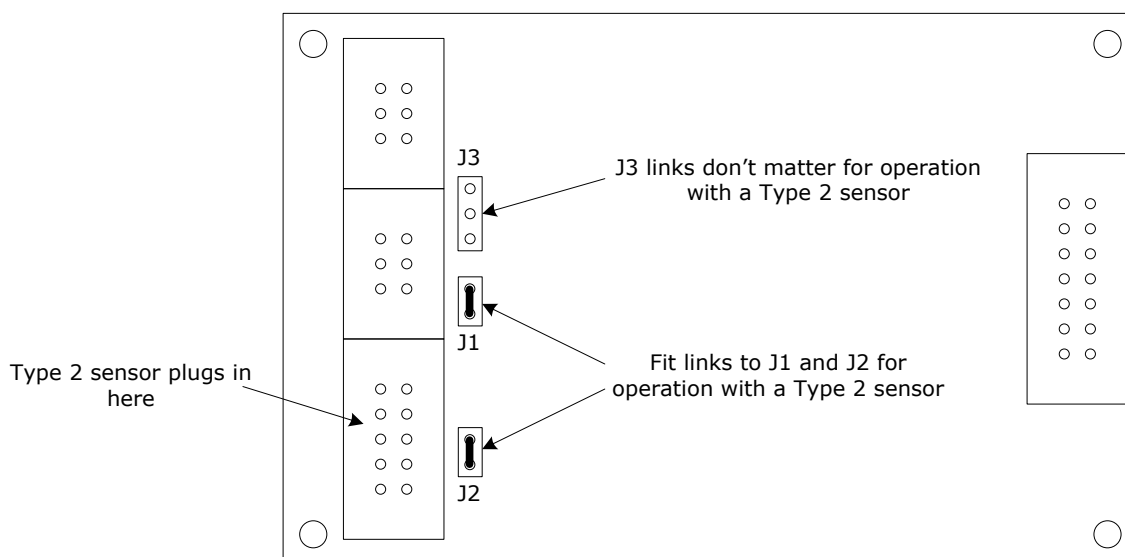

Figure 6 Link settings for a Type 2 sensor
Type 2 sensors include a single excitation coil and two COS/SIN sensor coil pairs, one fine (A) and one coarse (B), like Type 6 sensors. The difference is that the excitation coil is driven from full bridge MOSFET circuitry, so that both excitation coil connections are separately connected. The remaining four sensor coils may share a common return connected to VREF. The CAM312 Development Board can process one Type 2 sensor when configured as shown in Figure 6.